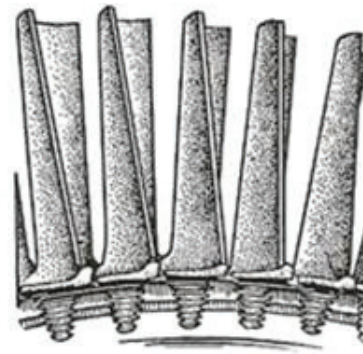

Fig. 3
c) What part of the text does Figure 3 correspond to? Prove your answer.